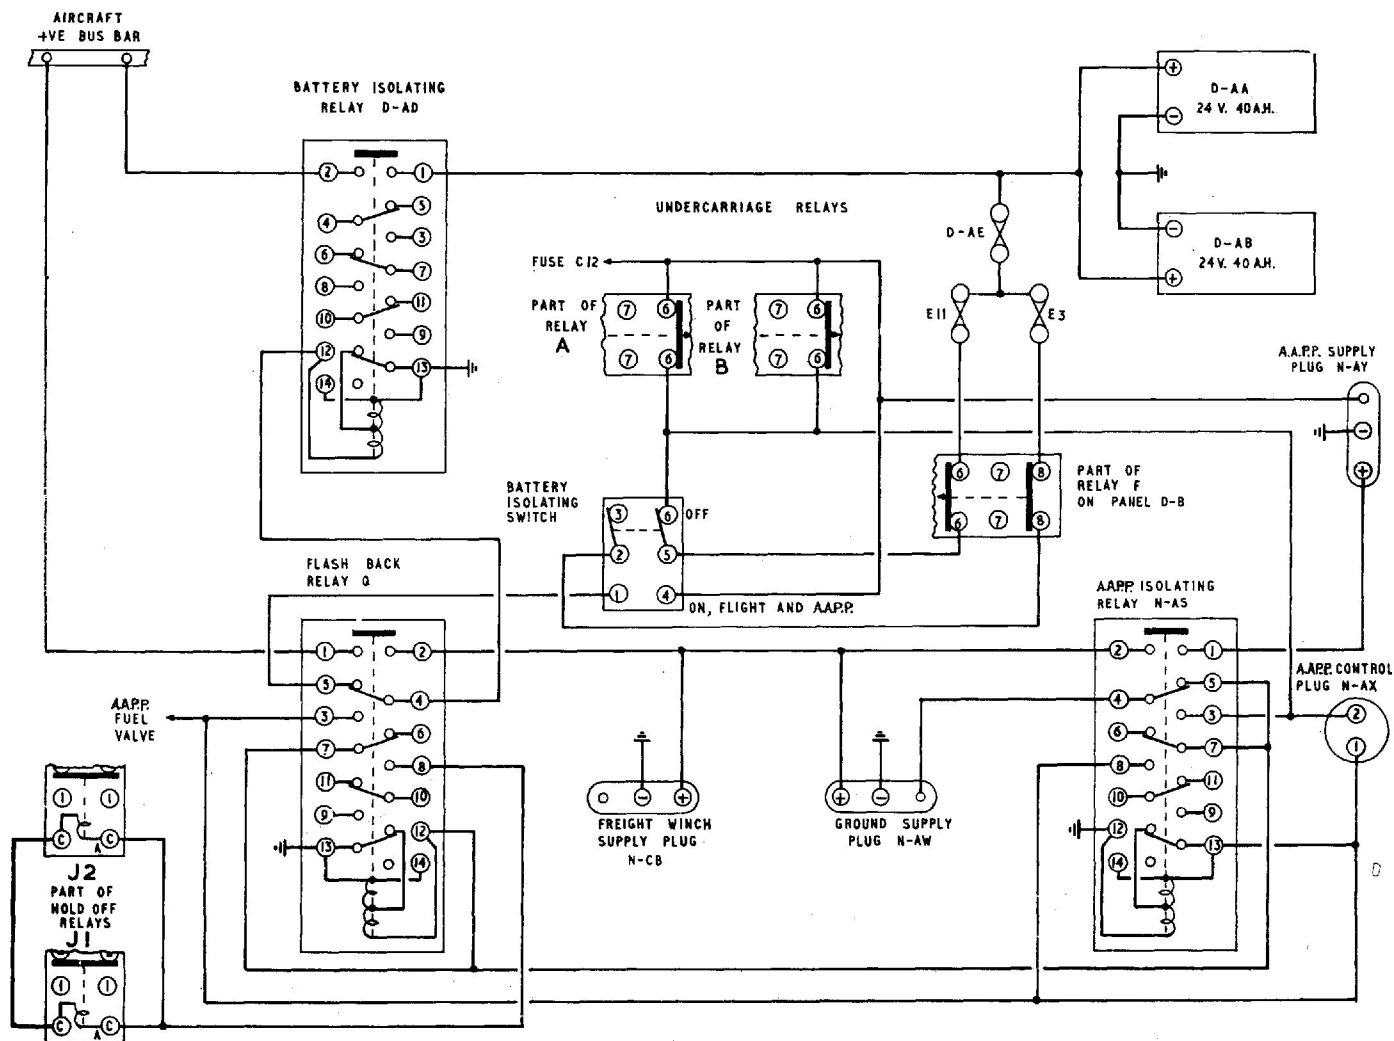
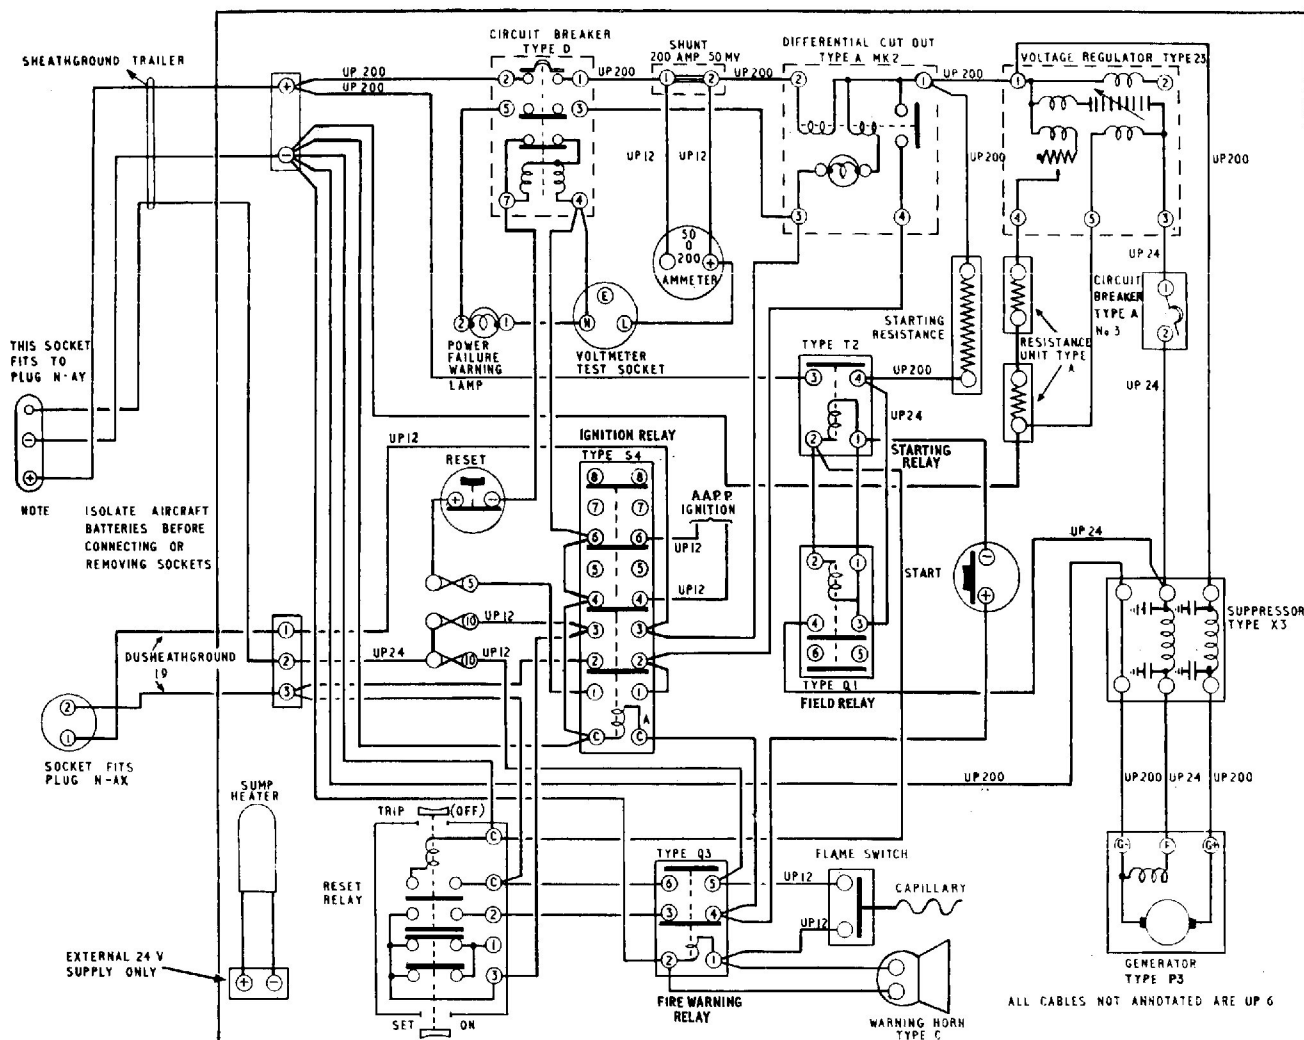

Fig. 4. Associated aircraft circuit diagram
Fig. 5. A.A.P.P. circuit diagram
4. The following paras should be read in conjunction with fig. 4 and 5.
5. With A.A.P.P. socket connected to the supply plug in the aircraft and the battery switch in the ON/FLIGHT AND A.A.P.P. position, a 28-volt supply from fuse E.3 (*fig. 4*) is fed via contacts 2-1 on the switch, and 5-4 on the flash-back relay, to energize the battery isolating relay. Contacts 1-2 on the isolating relay connect the battery to the bus-bar. At the same time a 28-volt supply from fuse E.11 will be fed via contacts 6-6a on crash relay F, 5-4 on the battery switch, the light duty pole on the A.A.P.P. plug and socket, to terminal 2 on the terminal block (*fig. 5*) to feed the two 10 amp. fuses in the unit. One fuse feeds terminal 3 on the ignition relay and is also linked to terminal 3 on the reset relay.
7. Completing a supply to terminal 13 of the isolating relay (*fig. 4*) will energize the relay and close contacts 1-2, 3-4 and 7-8, open contacts 5-4 and 12-13. The opening of contacts 12-13 inserts the economy coil in the isolating relay and contacts, 5-4 break the ground supply plug circuit to the flash-back relay. Contacts 3-4 make the A.A.P.P. safety circuit so that, should the ground supply be connected, the reset relay would be tripped. Contacts 8-7